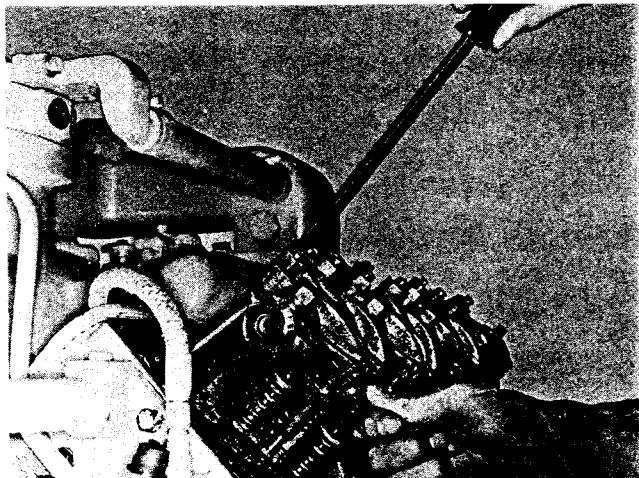

Fig. 2-34, (V11916). Adjusting valves
1. Loosen locknut and back off adjusting screw. Insert feeler gauge between rocker lever and top of crosshead. Valve clearances are shown in Table 2-7. Turn screw down until lever just touches gauge and lock adjusting screw in this position with locknut. Fig. 2-34. Torque locknut to values indicated in Table 2-5; note Step 2 under "Injector Plunger Adjustment".